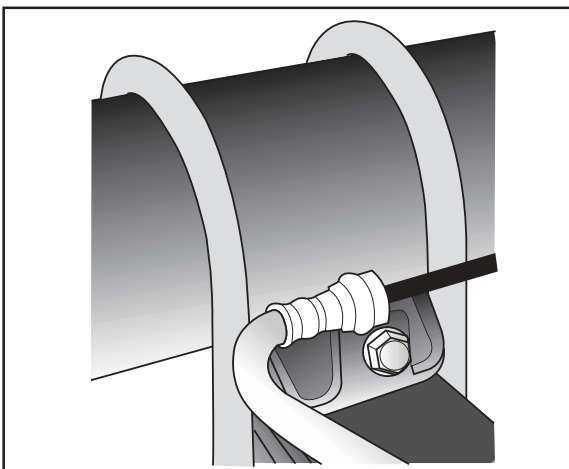

Figure 4
3. Remove the brake line hanger bolt that screws into the spring perch. Save the bolt for later use (Figure 4).